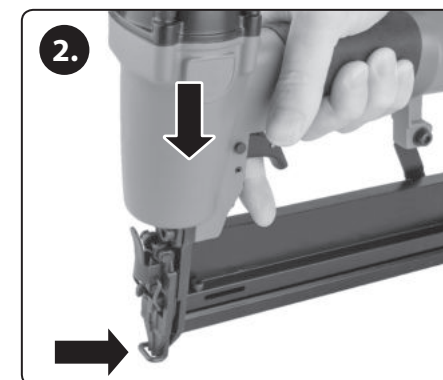

Fig. 5b
2. Push the nail/staple gun against the surface of the workpiece without pressing the trigger, so that the contact switch is compressed (fig. 5b, step 2).